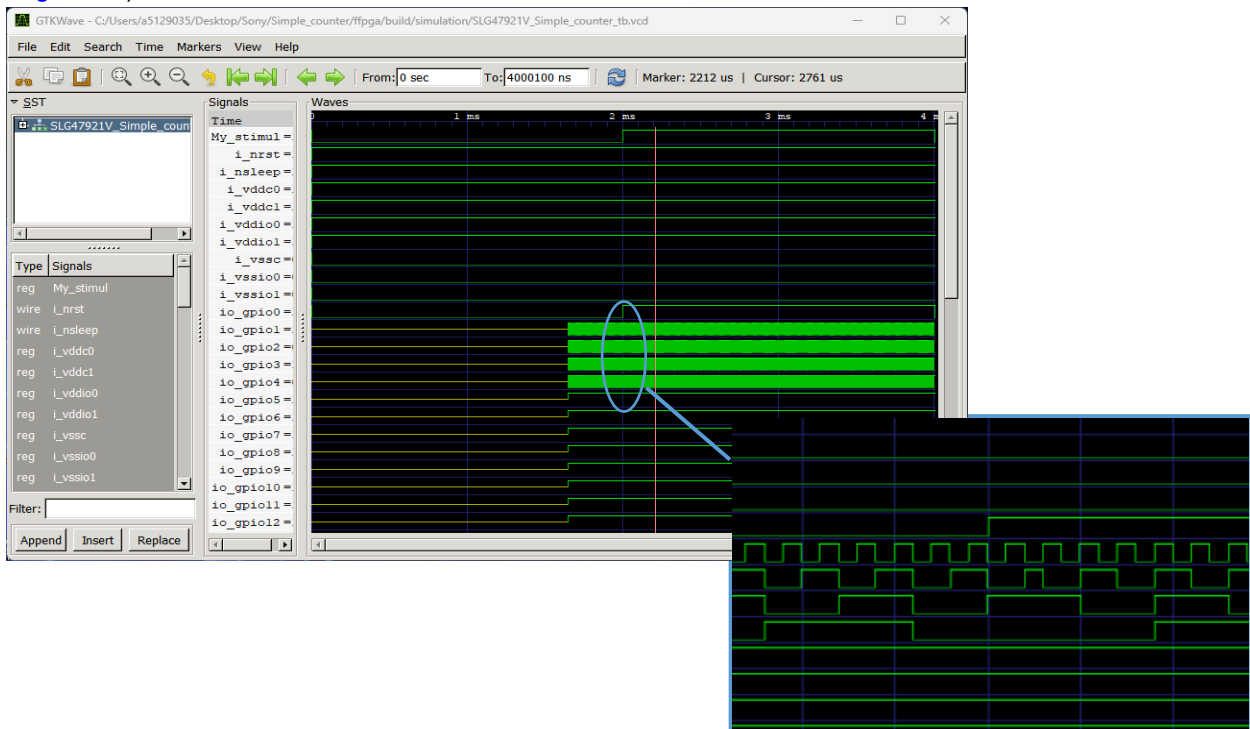

Figure 11. Full-Chip RTL Simulation Results
- Verify the simulation results – review the output and confirm that the project behaves as expected (see Figure 11).